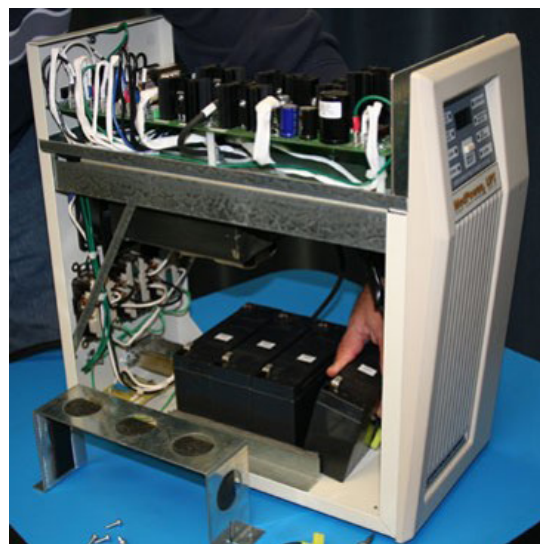

Fig 15
15. Remove one battery at a time. Fig 15